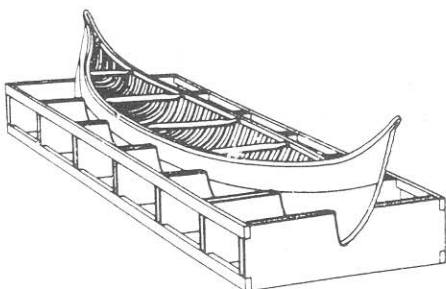

Figure 3.
1. Versions of a traditional ship's cradle can be used: a large and complex structure for heavy vessels, or for lighter craft, a simple series of supports shaped to fit the hull (Figure 3). There are four important points to remember about the mount: